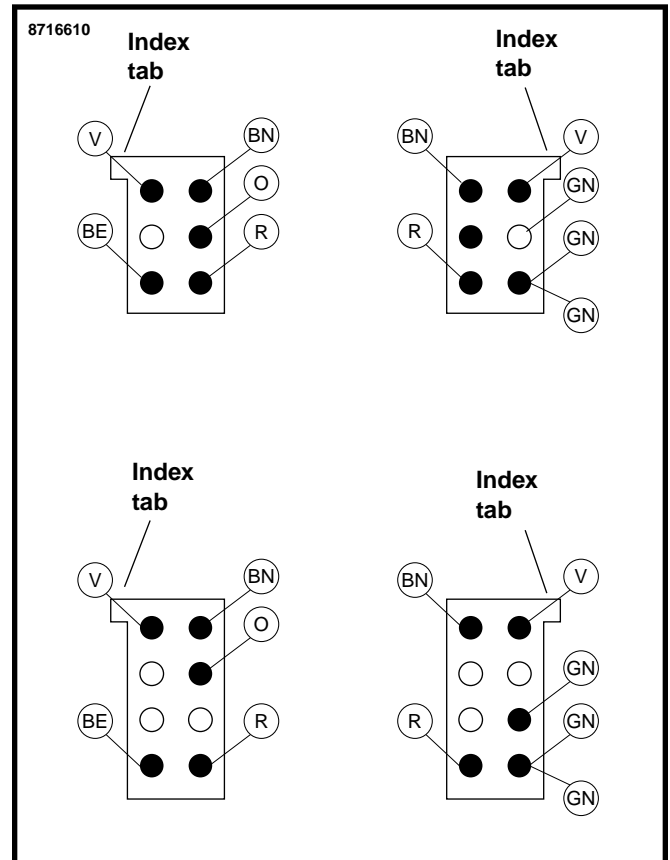

Figure 13. Converting 6 Pin Connectors to 8 Pin Connectors
5. See Figure 13. Insert the pin terminals removed from the six pin housing into the eight pin housing in the hole locations shown. Insert the socket terminals removed from the six socket housing into the eight socket housing in the hole locations shown. If the vehicle is equipped with a tour-pak, the tour-pak light socket terminal is inserted into the eight socket housing in the location shown.